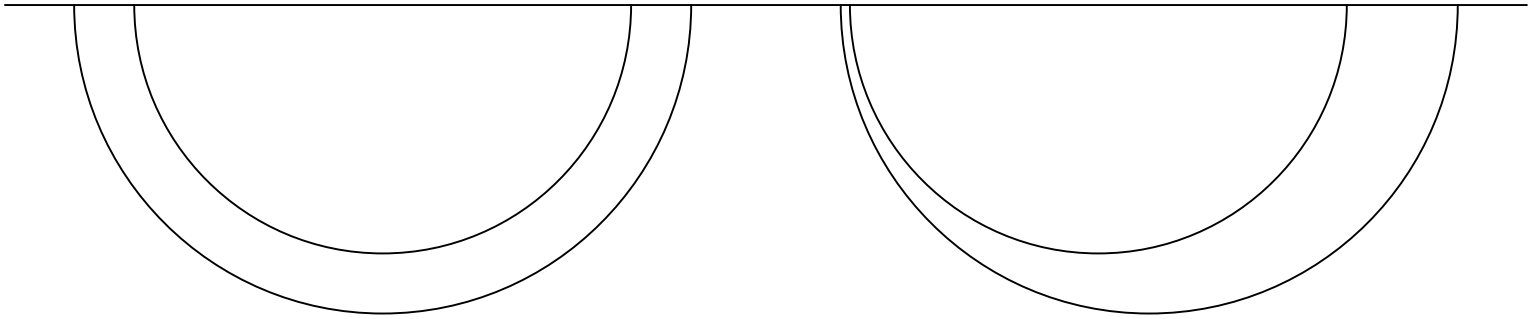

FIGURE 20
3. **Check the alignment of the unit. After cleaning the unit, always check the alignment of the punch And die section. To check the alignment, insert the punch and holder, without the springs, into the housing and check the gap. SEE FIGURE 20 ON THE FOLLOWING PAGE.**